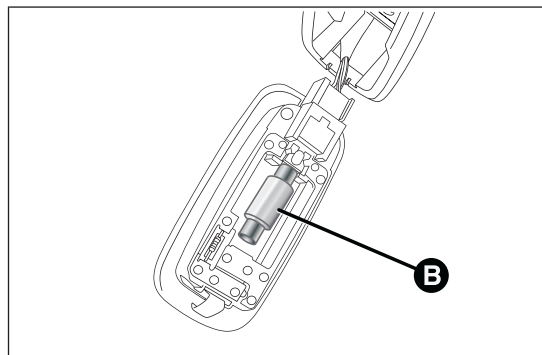

fig. 148
- replace the bulb B fig. 148 releasing it from the side contacts;